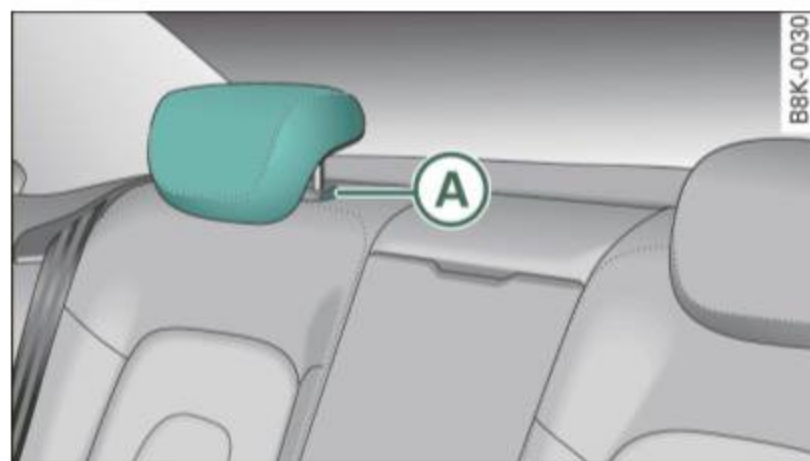

Fig. 83 Rear seats:
- Press the button **(A)** ⇒ fig. 83 and push the head restraint down.